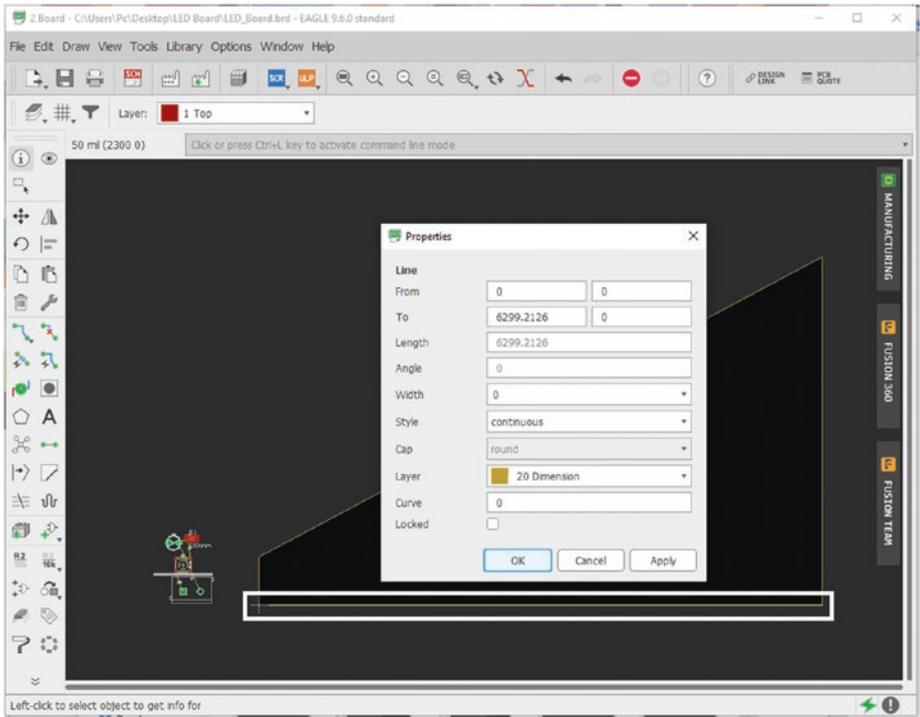

Figure 5-57. Select bottom horizontal line
- Now click the bottom horizontal line, and the same box should appear. See Figure 5-57.